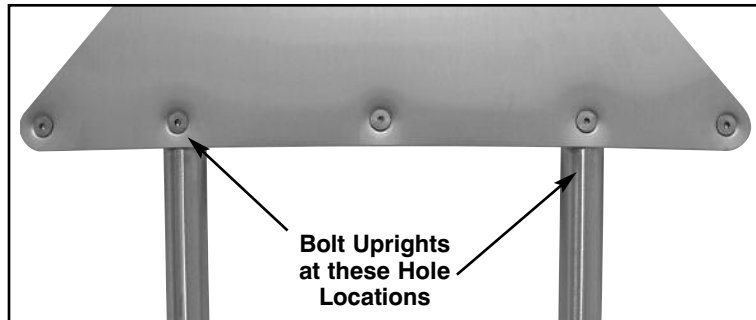

Figure 1
Align (2) Cross Tube's with welded Tubular Upright at the Second Hole in on each End Panel. Secure with Flat Head Bolts provided (**Figure 1**).